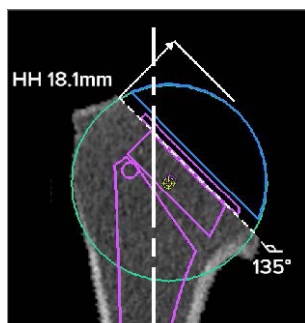

Figure 50. Coronal CT view
- Verify the restoration of humeral head height and the center of rotation as shown in the 2D view (Figure 50).